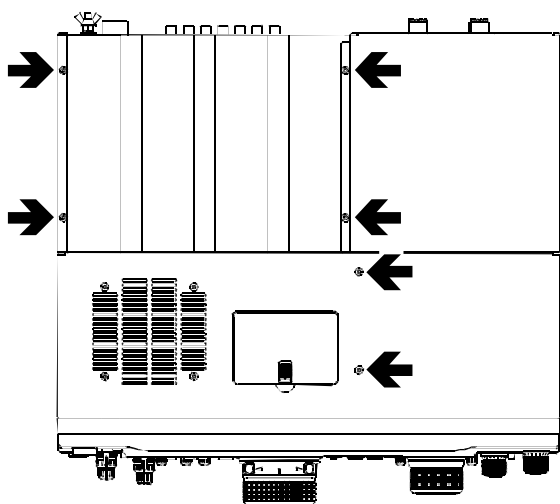

Figure 2
- ❑ Referring to Figure 2, remove the six screws (⇔) from the top panel. Pry the top cover open and disconnect the speaker cable from the speaker, then lift off the top and side covers.
- ❑ Referring to Figure 2, remove the six screws (➡) from the top panel. Pry the top cover open and disconnect the speaker cable from the speaker, then lift off the top and side covers.